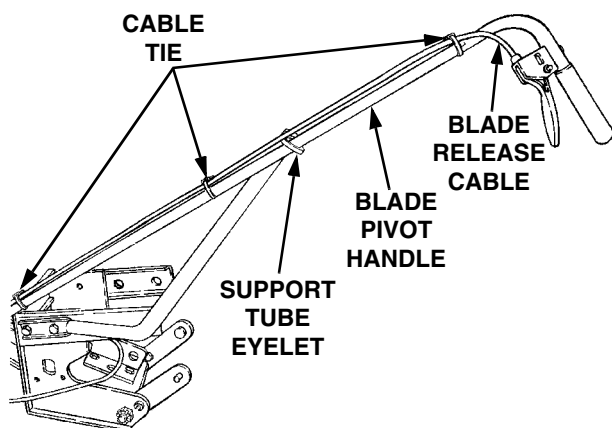

Figure 9
6. Secure the blade release cable to the pivot handle with the three tie straps (19) as shown in Figure 9. Cut excess from tie strap ends.